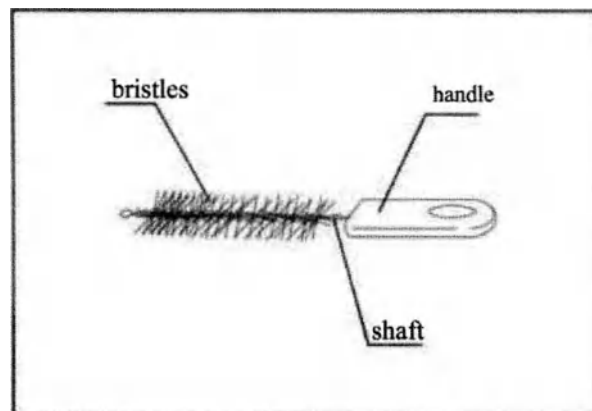

Fig 7.4
The Channel port cleaning brush is used to brush the endoscopic injection opening (Fig 7.4)
1. Check for loose or missing bristles (See Fig 7.4)